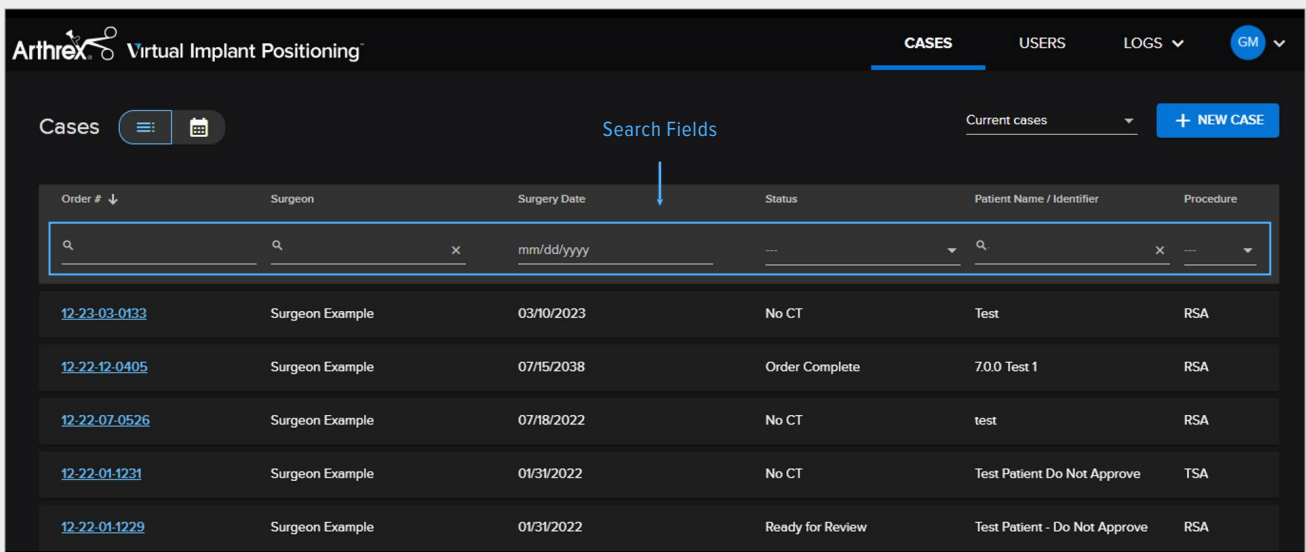

Figure 3
- This page (Figure 3), which provides surgeons with an organized view of their cases, provides quick navigation, sorting options, and searchable columns.